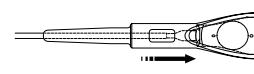

Fig. 13
7. Advance the forceps through Cartridge until the jaws are about to contact the leading edge of the ICL or TICL. (Fig. 13)